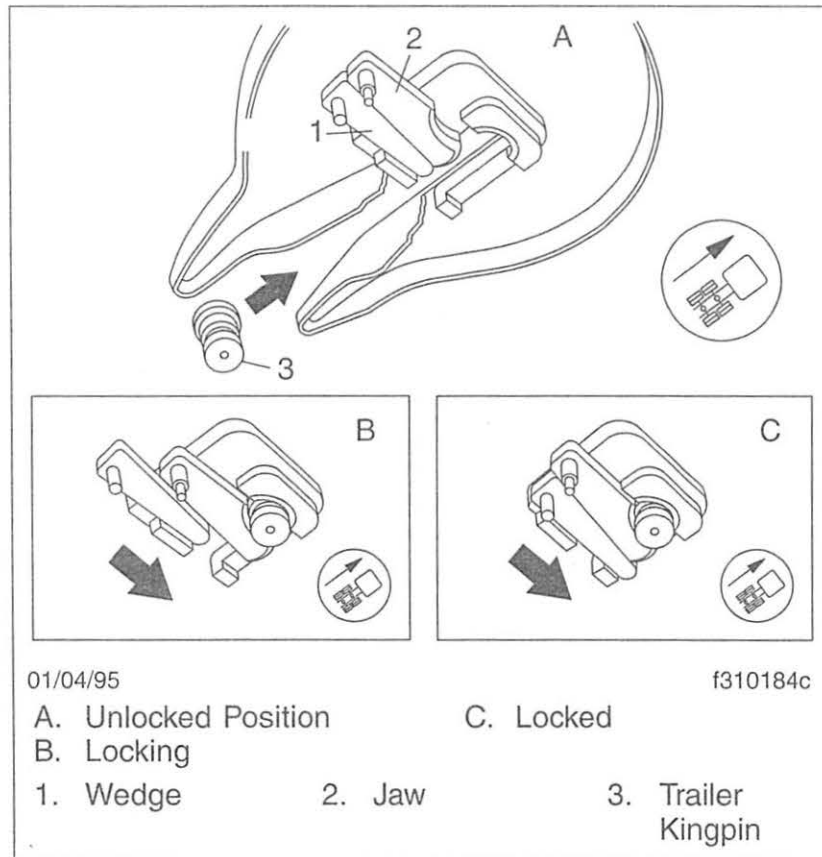

Fig. 10.16, Fontaine Kingpin Lock Mechanism
Fifth Wheel Lock Mechanism for Trailer Kingpin (Fig. 10.16)
During coupling (**Fig. 10.16**), the motion of the kingpin entering the jaw will actuate the jaw and wedge. The jaw
- Position the tractor so that the fifth wheel lock opening is in line (both vertically and horizontally) with the trailer kingpin. The kingpin should be in a position to enter the throat of the locking mechanism (**Fig. 10.16**). Adjust the trailer landing gear to give enough alignment height for positive kingpin lockup.